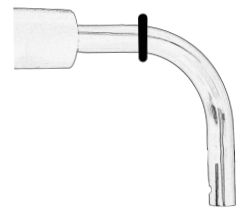

Figure 2
3. Repeat on second "J" rod (A)
4. Using 1 - "J" rod (B) and 1 "O" ring (C)
5. Position the "O" ring approximately 1.5" from the corner of the shortest end of the "J" rod with the hole in it (figure 2)